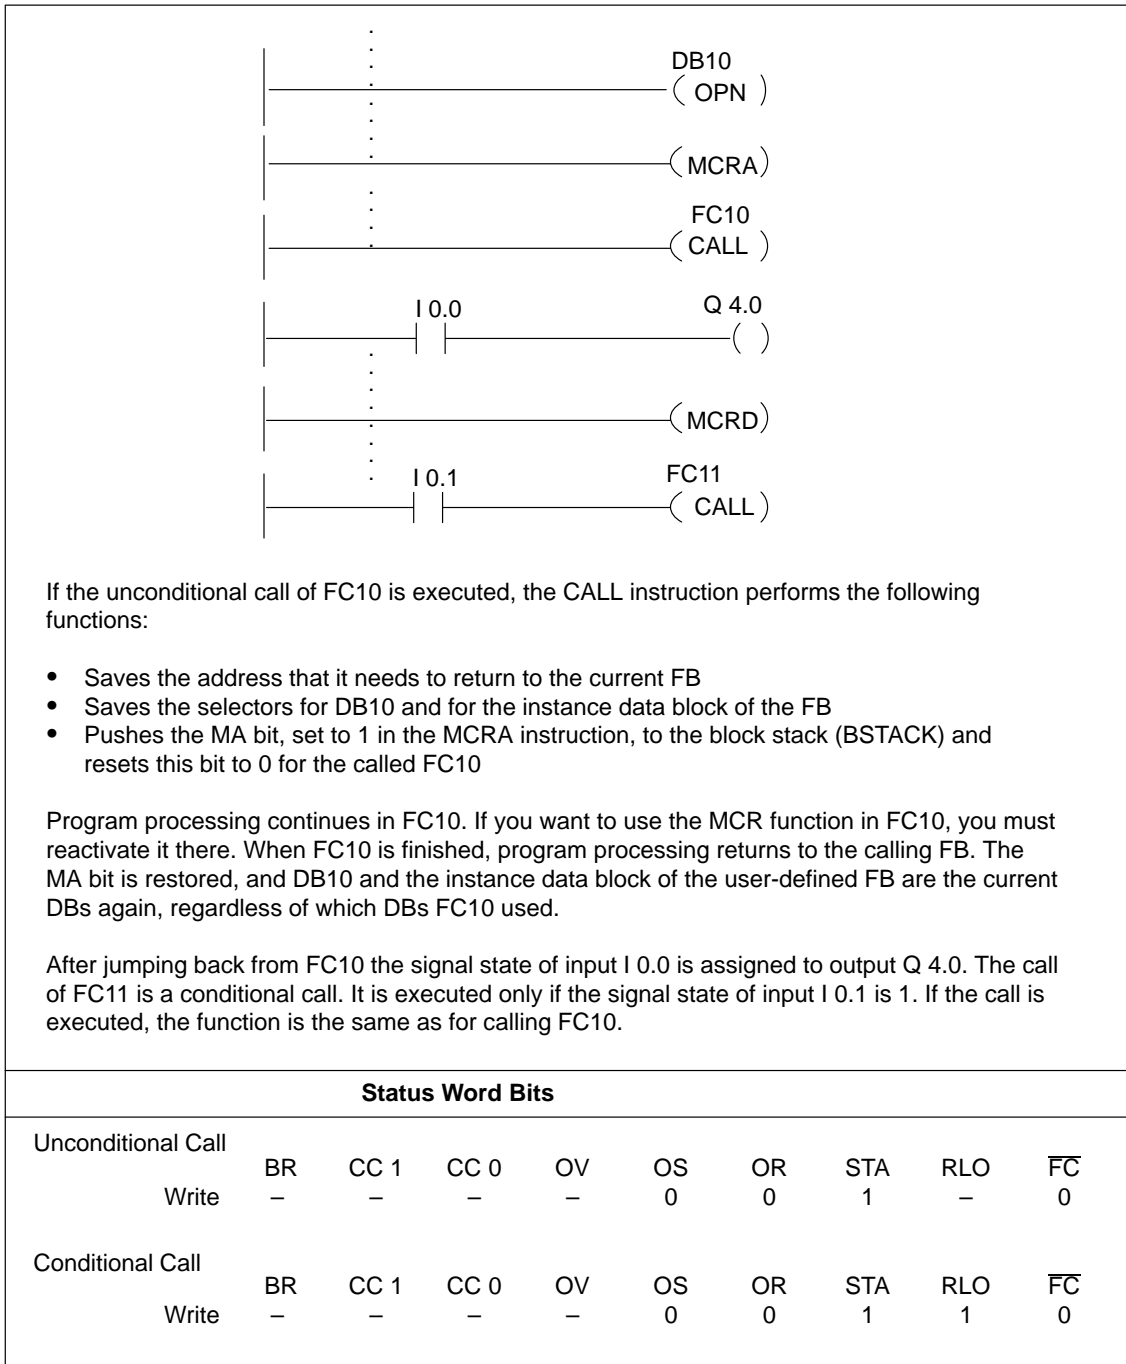

Figure 20-1 Call FC/SFC from Coil
You can use the Call FC/SFC from Coil instruction to call a function (FC) or a system function (SFC) that has no parameters. Depending on the preceding link, the call is conditional or unconditional (see the example in Figure 20-1).